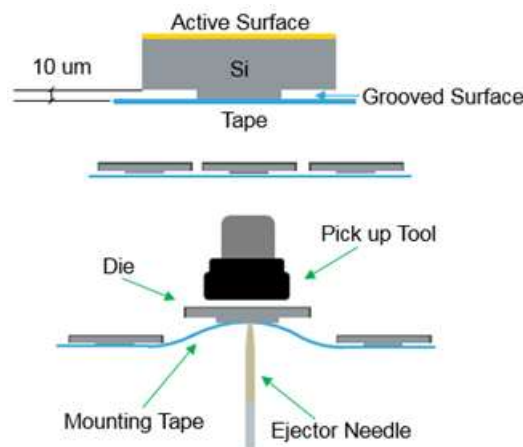

Fig. 3. Silicon die backside augmentation through subtractive method application.
- Silicon die backside area is augmented by reducing the area by 50% or less with depth of 10  $\mu\text{m}$  as depicted in Fig. 3, through the application of backside surface subtractive method